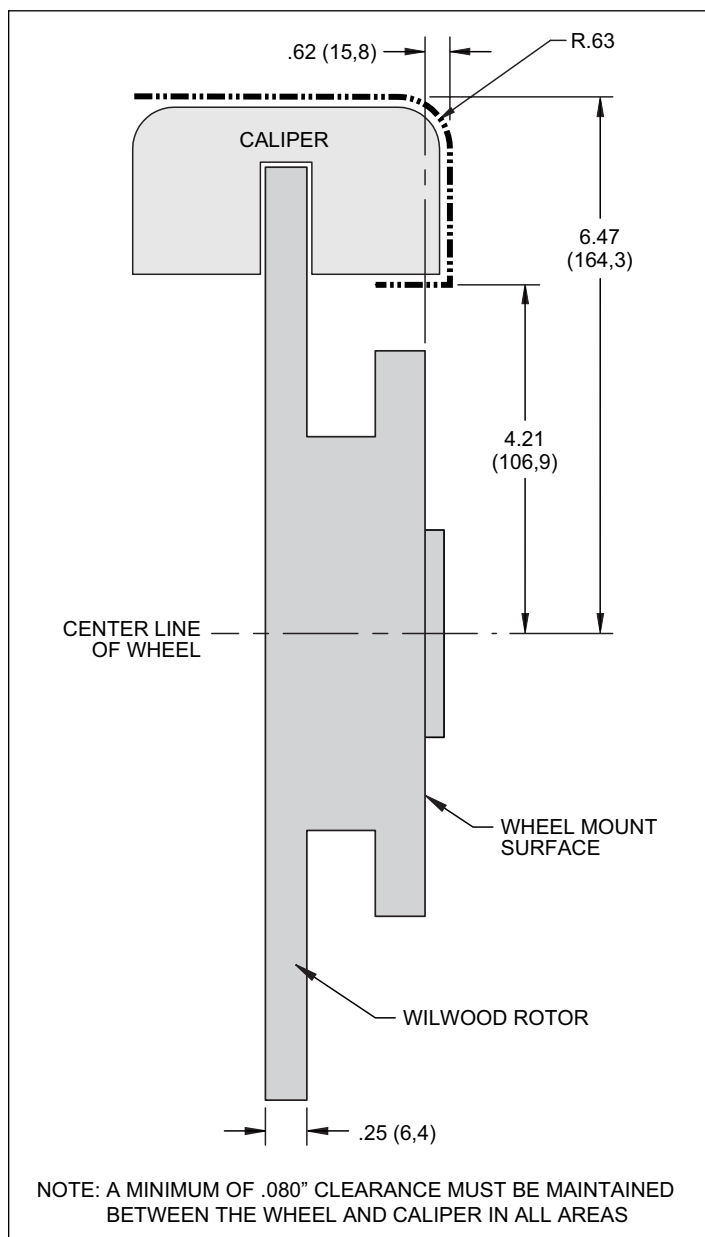

Figure 2. Wheel Clearance Diagram
- Review the wheel clearance diagram (Figure 2, page 3) to verify that there is adequate clearance with the wheels you will be using with the installation.
Verify your wheel clearance using Figure 2.